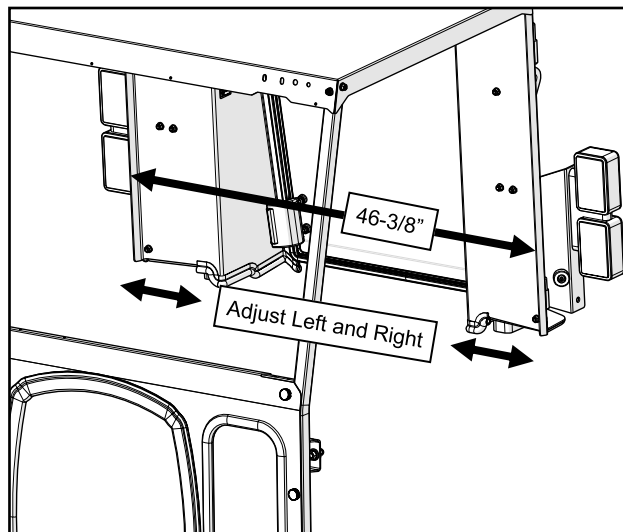

Fig. 12.1 (Align Legs Left and Right)
12.1 Adjust the bottom of the rear legs side to side to get the outer surfaces matched up with the sides of the rear fender. See figure 12.1. The outer flanges of the legs should be about 46-3/8" apart, outside to outside.